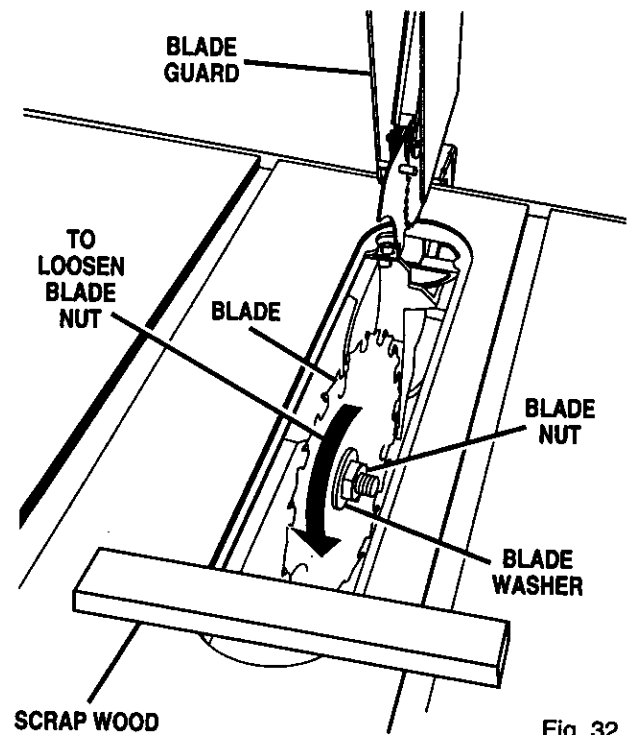

Fig. 32
See Figures 32 – 34.
- Raise the blade to its highest position by turning the height handwheel clockwise. Angle the blade straight up by loosening the bevel lock handle and turning the bevel handwheel. Wedge a piece of scrap wood against the front of the blade. See Figure 32.